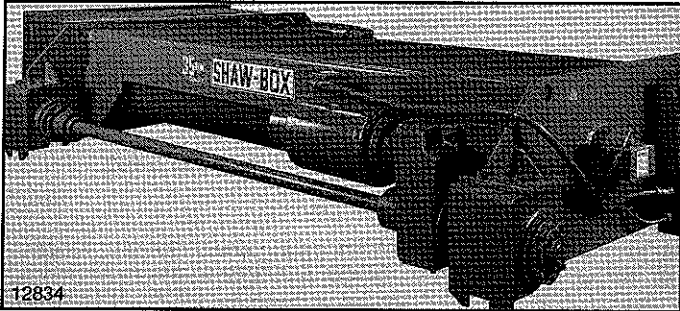

Figure 7-1. Trolley Drive Arrangement.
a. The trolley drive has a double reduction helical gear reducer with a face mounted motor and brake as shown in Figure 7-1. This reducer is keyed to one drive wheel axle and both drive axles are connected to the traverse drive shaft by couplings. Drive wheels are keyed to their axles.